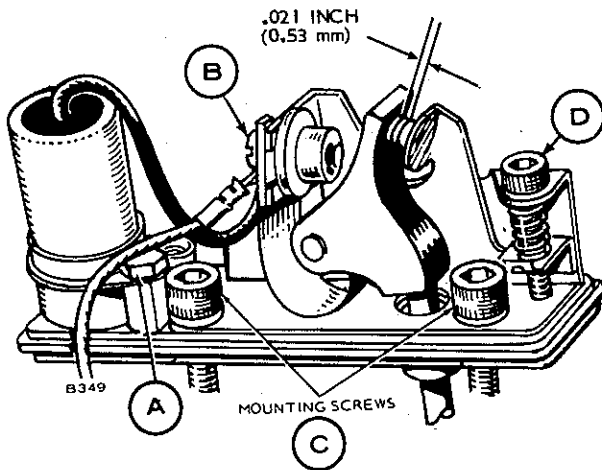

FIGURE 10-28. TOP ADJUST POINTS
3. Remove condenser (screw A) and detach condenser lead and coil lead (screw B), Figure 10-28.
4. Remove two Allen screws (C) and lift breaker assembly from engine.
6. Using Allen wrench at screw (D) adjust point gap at .021 inch (0.53 mm) using a clean, flat thickness gauge.